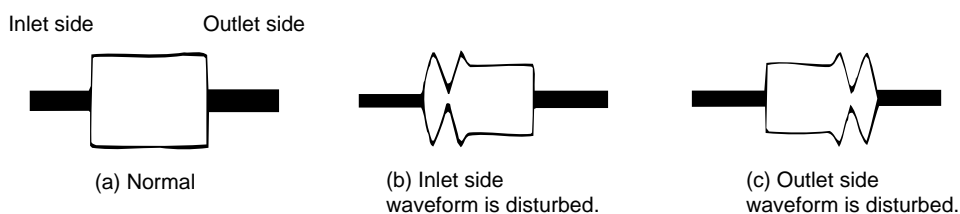

Figure 2
- (3) Playback the alignment tape (VR2ABOPS).
- (4) Ascertain that each guide is free from remarkable curl.
- (5) Ascertain that the RF waveform of inlet and outlet sides is flat on the oscilloscope (Figure 2, (a)). Unless the waveform is flat, (Figure 2, (b), (c)), make an adjustment as follows.